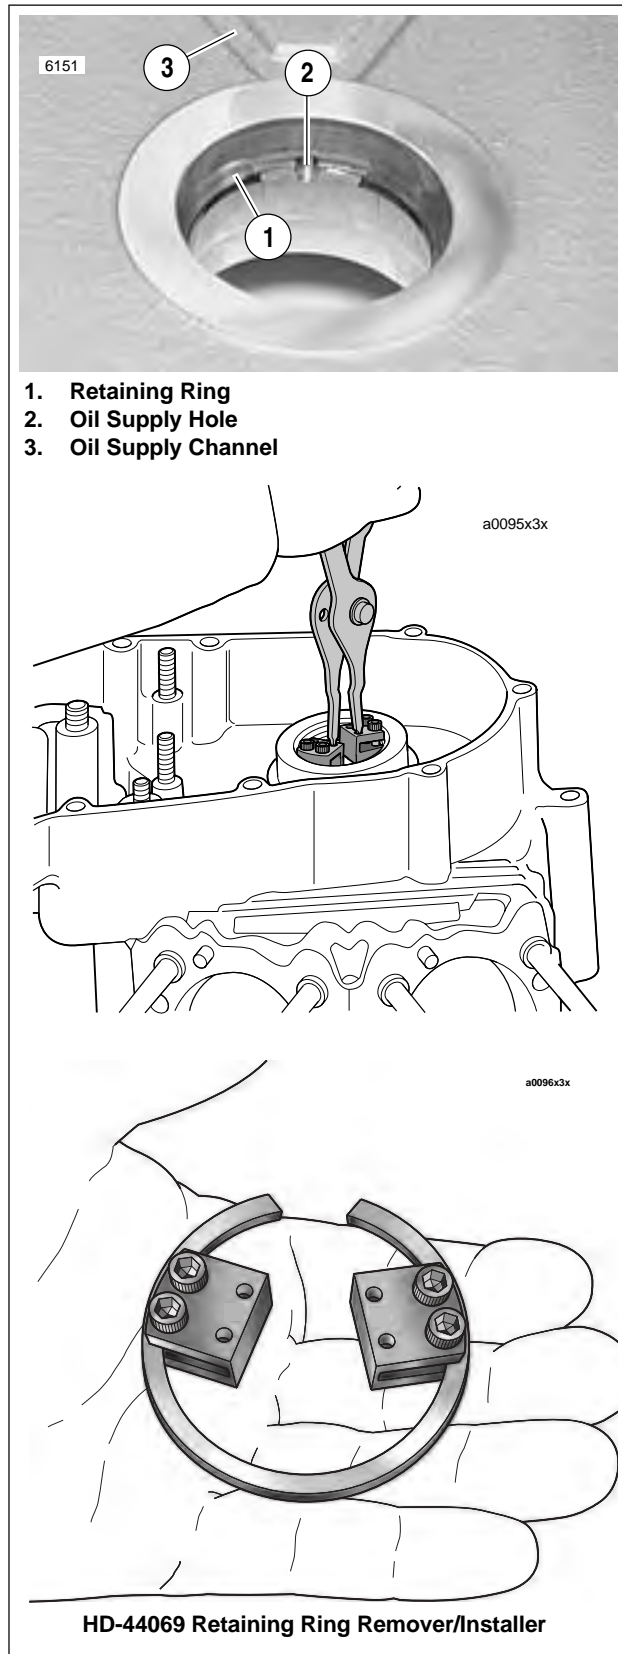

Figure 3-128. Snap Ring Installation
1. See Figure 3-128. Install **new** snap ring to crankcase bore (if bearings were replaced).